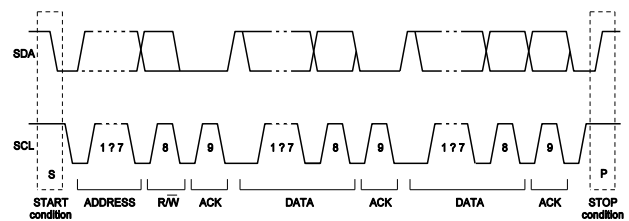

Figure 10: Complete Data Transfer
Data transfers follow the format shown in Figure 10. After the start condition (S), a slave address is sent. This address is seven bits long followed by an eighth data direction bit (r/w). 0 indicates a transmission (write), and 1 indicates a request for data (read). A data transfer is always terminated by a stop condition (P) generated by the master. However, if a master still wishes to communicate on the bus, it can generate a repeated start condition (Sr) and address another slave without first generating a stop condition.